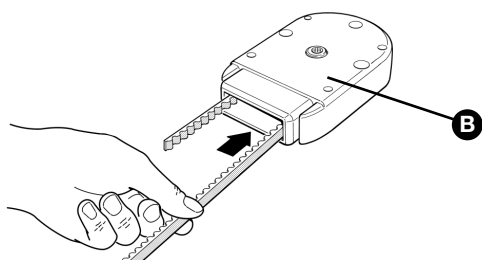

Figure 15
**3** Pass the same end through the head [B], as in fig. 15. taking care that the belt is correctly positioned: the teeth should be facing inwards, and should be straight with no twists